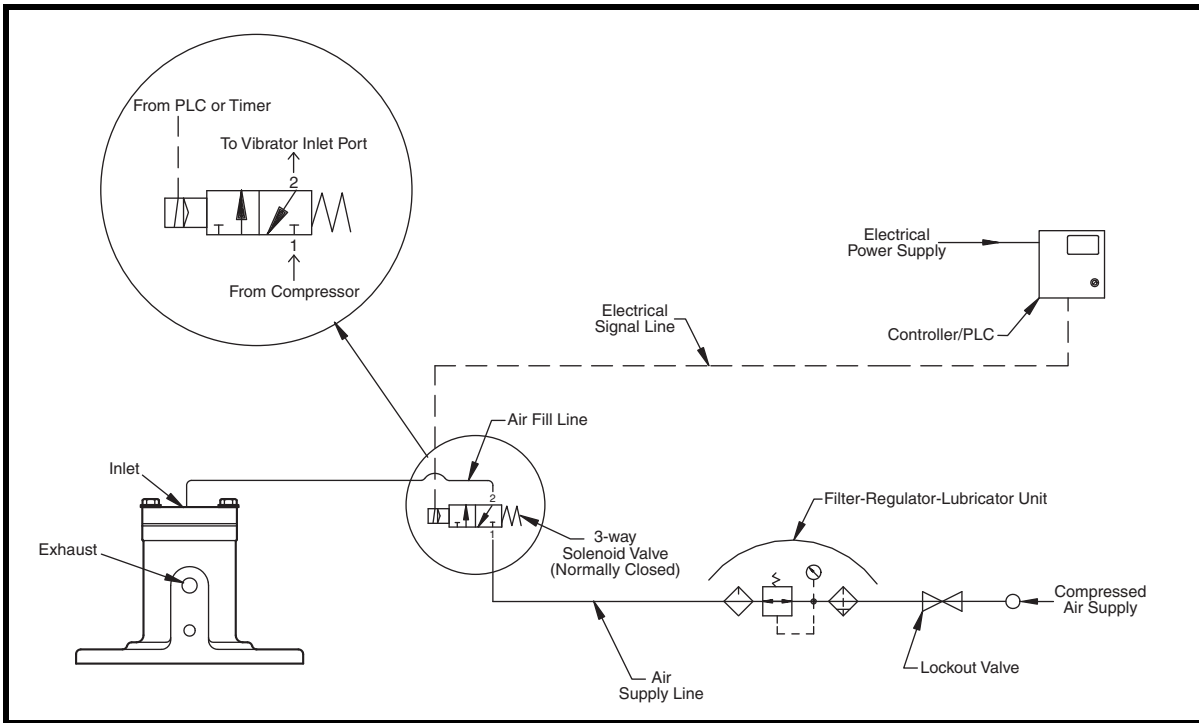

Figure 6. Cougar® Thumper™ Series Timed Impactor Plumbing Detail for Normally-Closed Solenoid Valve
1. Run a lubricated air line (supplied by the customer) to the intake on the side of the vibrator/impactor body. See Figure 6.